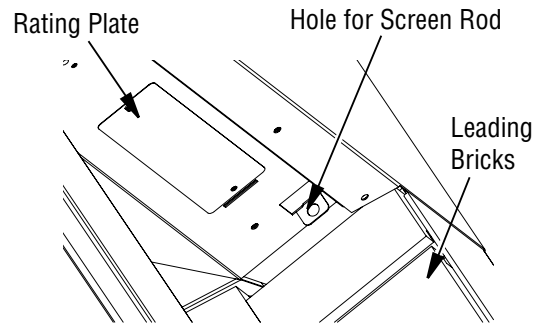

Figure 17 - Installing Fireplace Screen
3. Bend tab on both sides with the hole down to insert the round end screen rod into hole on the left and right side of smoke shelf (Figure 17).